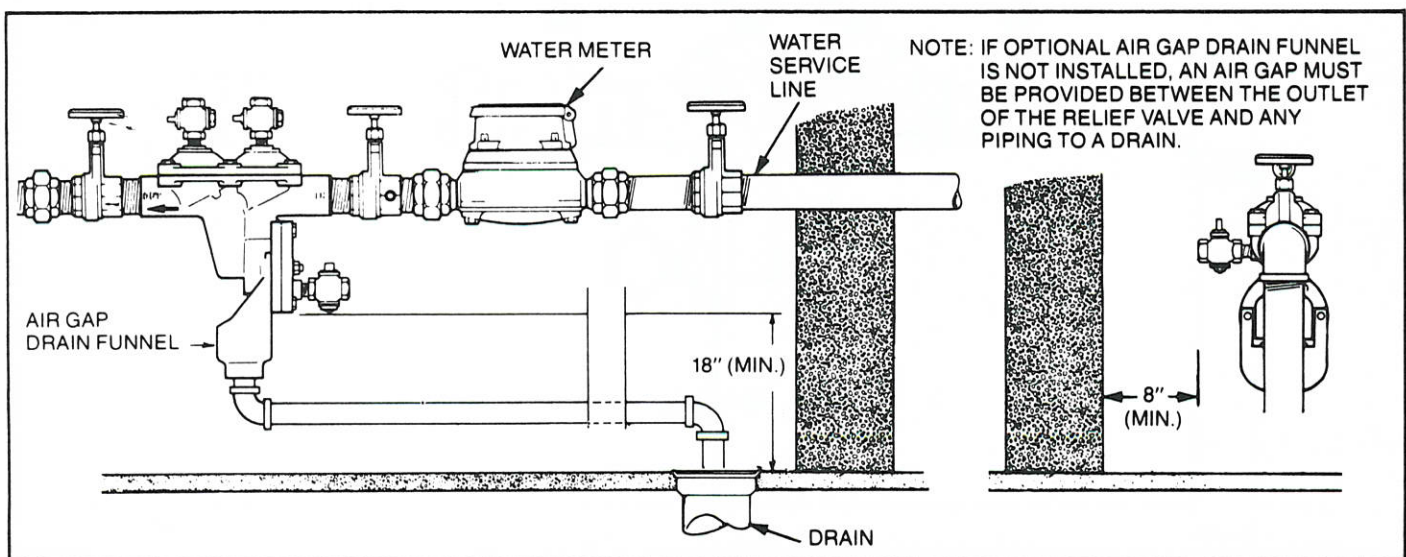

Figure 3. COLD WEATHER INDOOR INSTALLATION
D. COLD CLIMATE INDOOR INSTALLATION (See Fig. 3)
INSTALLATION (see Fig. 3)